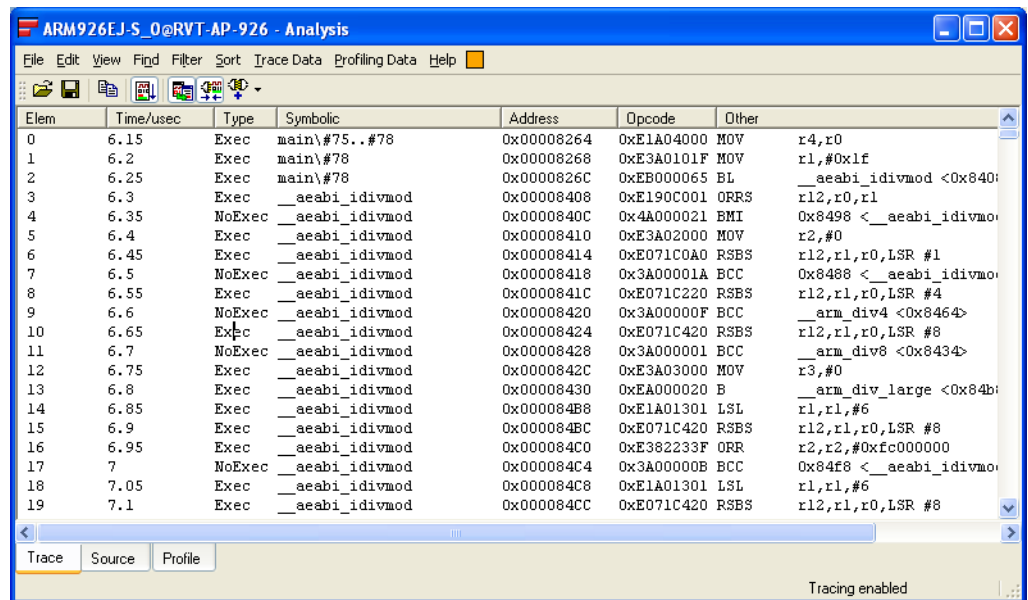

Figure 10-39 Captured trace in Analysis window
7. After a short time, click **Stop** on the Debug toolbar to stop execution. The captured trace is displayed in the **Trace** tab of the Analysis window. Figure 10-39 on page 10-37 shows an example: